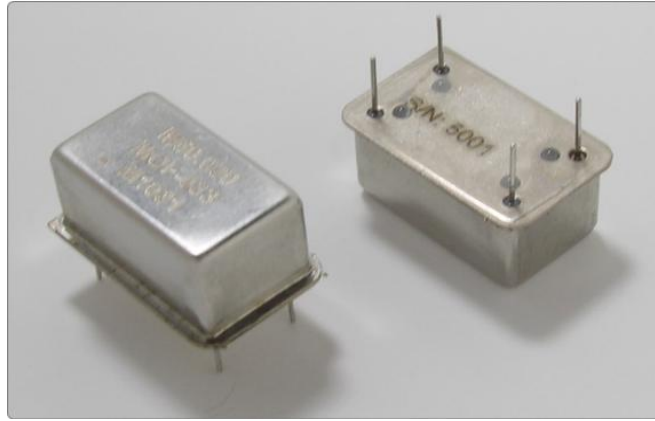

Figure 16: An Oven Controlled Clock Oscillator (or OCXO) with sub-ppm frequency stability is available for the PulseBlaster upon request.
6. SpinCore MMCX Adapter Board Figure 16 – This adapter board allows easy access to the individual bits of the PulseBlaster (only for the SP17 board). This adapter board can be part of a package that includes 12 MMCX to BNC cables and three SMA to BNC adapters. This package can be changed to include any number of cables and any number of adapter boards. For ordering information contact SpinCore at <http://www.spincore.com/contact.shtml>.